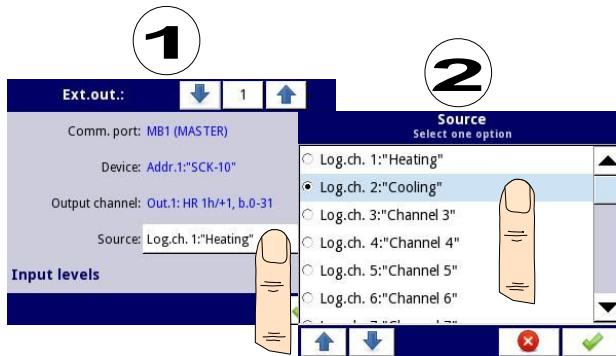

Fig. 7.100. Sample selection of **Source** for External output
- **Source** - this parameter allows to choose a source for an external output from the logical channel list (see Fig. 7.100),